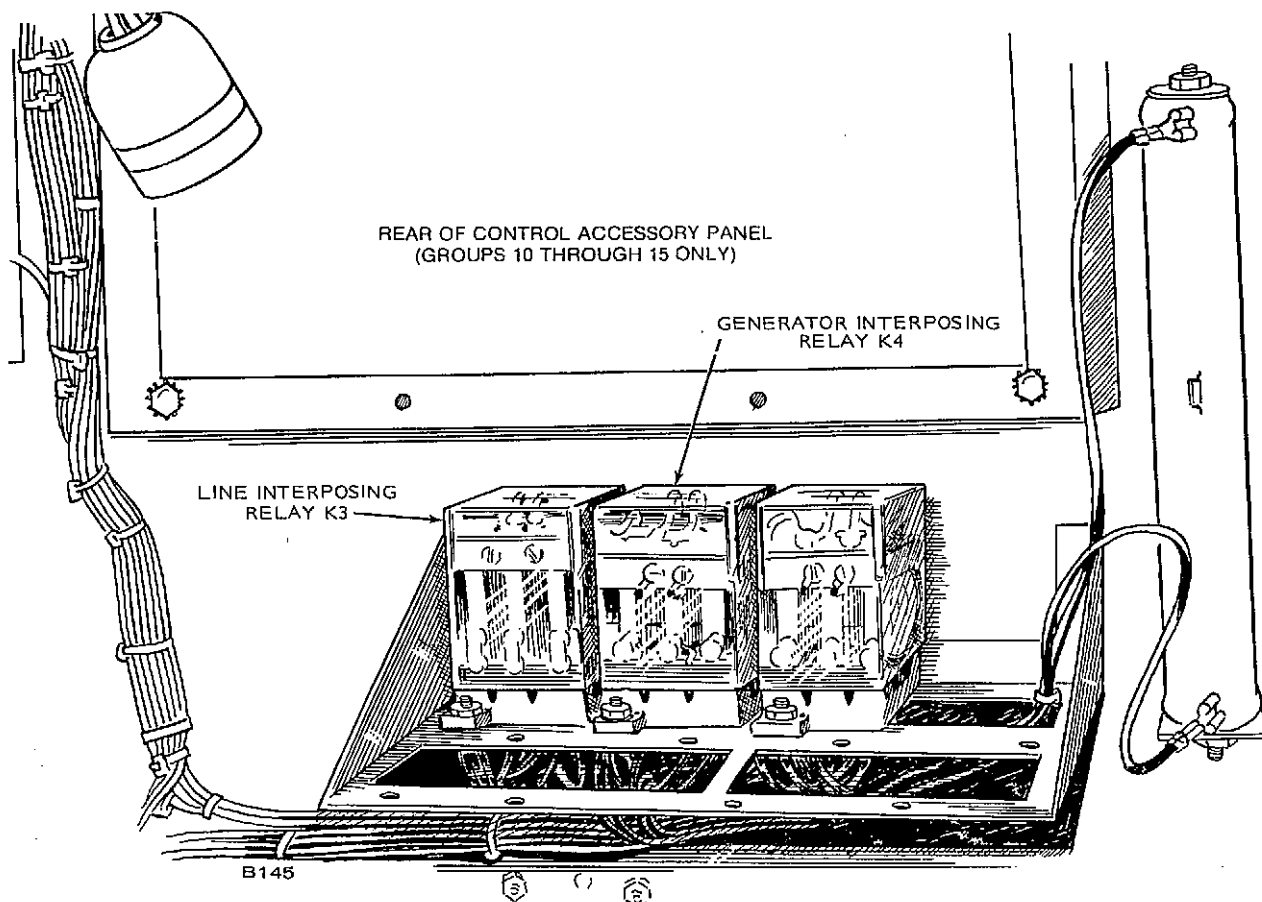

FIGURE 17. LOCATION OF INTERPOSING RELAYS
- Locate generator interposing relay K4 (Figure 17).